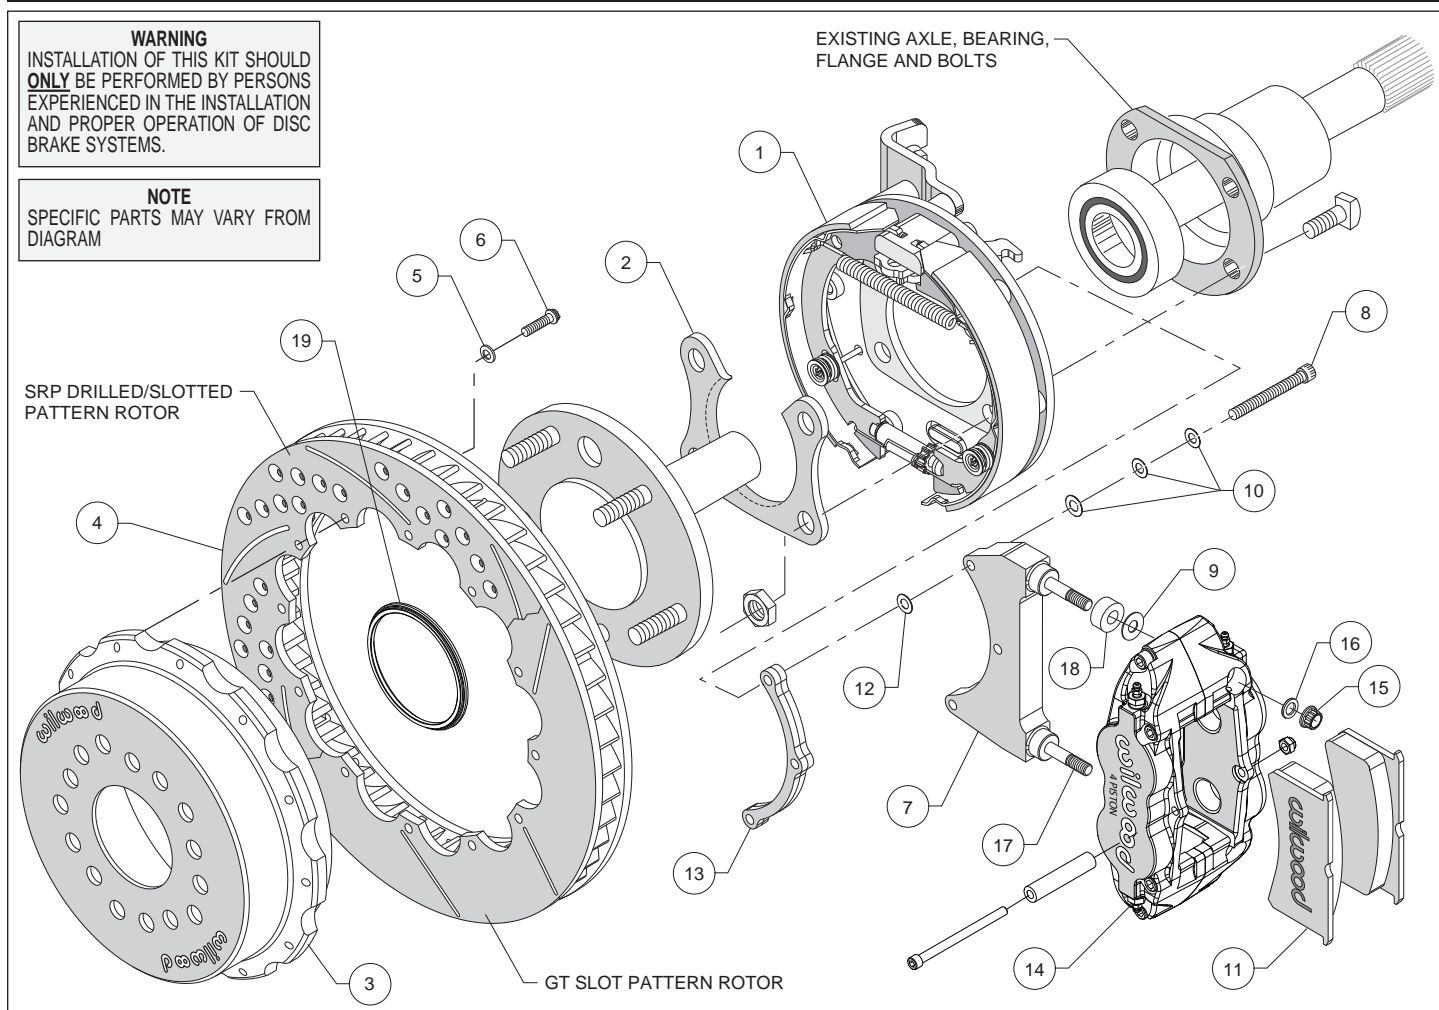

Figure 1. Typical Installation Configuration
- Slide the bracket kit assembly (1) onto the housing flange and then insert the axle assembly through the center hole of the bracket kit assembly (1). Align the bearing retainer, as shown in Figures 1 and 4, and secure using the stock Original Equipment Manufacturer (OEM) bolts and nuts. Stock OEM hex nuts that retain the bracket kit assembly (1) and retainer (2) should be on the wheel side of the bracket. Apply red *Loctite*® 271 to the stock OEM bolt threads and torque to OEM specifications. Make sure the bracket kit assembly (1) brake pads are FACING OUTWARD TOWARDS THE WHEEL.
- Slide the rotor registration adapter (19) onto the axle register on the axle flange with the smaller O.D. facing toward the rotor/hat (3). Align the correct hole pattern in the hat with the stud pattern on the axle flange. **NOTE:** Some OEM and aftermarket axles come with stud sizes larger than 0.50" diameter. Verify stud size and have a qualified machine shop drill the hats to the correct size, if necessary. Slide the hat/rotor assembly (3 and 4) over the wheel studs covering the bracket kit assembly (1) and against the axle flange face. Check to be sure the hat seats squarely against the hub. Install a couple of lug nuts (finger tighten) to keep the rotor/hat assembly in place while continuing with the installation.
- **NOTE:** Please reference the caution statement at the beginning of the assembly instructions. The caliper mounting bracket assembly (7) should be installed first with clean, dry threads on the mounting bolts (8). Install the bracket from the rear side of the bracket kit assembly (1) by sliding bolt (8) through three flat washers (10), bracket (7), shim washer (12) and finally through the spacer (13), see Figure 1. **NOTE:** End of bolt should not exceed inside face of insert. The bracket must tighten squarely against the back side of the bracket kit assembly (1). Inspect for interference from casting irregularities, machining ridges, burrs, etc. Use one thin shim (12) between the bracket (7) and spacer (13) during initial trial fitting.
- Install one spacer (18) and one shim (9) over each pre-installed stud (17) on the radial mount bracket (7). Slide the caliper (14) in place over the studs and rotor, then install the washer (16) and lock nut (15) to hold the caliper in place. Snug the lock nuts (15) and check that the rotor (4) is centered in the caliper (14). Add or subtract .015" shims (12) as necessary between the caliper mounting bracket (7) and the spacer (13) to center the caliper (9).
- Remove the caliper center bridge pad retainer bolt, nut, and tube from the caliper. Slide the brake pads (11) into place. They should install easily without interference. Check that the outside radius of the brake pad is aligned with the outside diameter radius of the rotor face. Add or subtract shims (9) between the caliper (14) and mount bracket (7) to gain the proper alignment. Reinstall the center bridge pad retainer tube, bolt, and locknut. The locknut should be snug without play in the bolt or tube. Be cautious not to over tighten.
- Adjust the parking brake shoes outward (using a drum shoe adjustment tool available at your local auto parts store) while spinning the hat (3) until a slight drag is felt against the hat/drum. Remove the lug nuts that were holding the hat/rotor in place. Install the wheel and lug nuts. Check to see that the wheel rotates freely without interference.
- Once all clearances have been checked, remove the wheel, caliper, hat/rotor from the bracket kit assembly (1). Secure the caliper mounting bracket (7) to the bracket kit assembly (1) using red *Loctite*® 271. Torque bolts (8) to 180 in-lb. Reinstall the hat/rotor assembly and again use lug nuts to hold it in place. Lubricate caliper mounting studs and nuts with lightweight oil, reinstall the caliper, torque the caliper nuts (15) to 28 ft-lb.
- **NOTE:** Clevis and cable kits which attach to the parking brake assembly are not included in the Wilwood parking brake kit. Wilwood offers a generic style parking brake cable kit, P/N 330-9371 for this application which can be ordered separately from your local Wilwood dealer or by calling Wilwood customer service at (805) 388-1188.